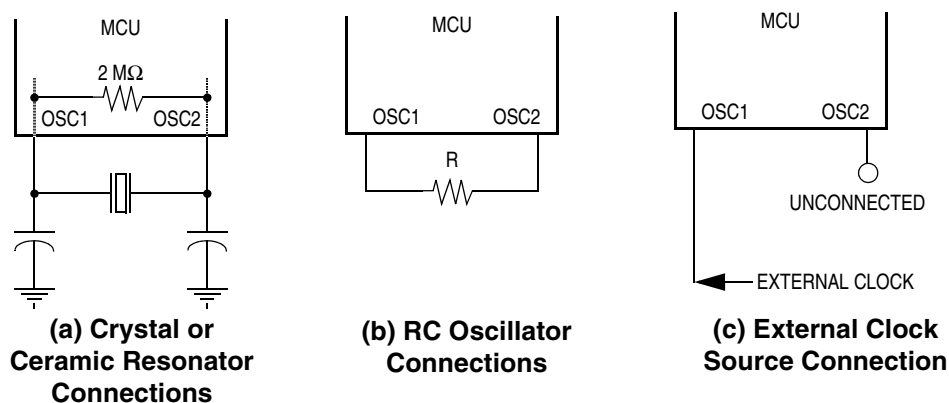

Figure 1-3. EPO Oscillator Connections
- A crystal as shown in Figure 1-3 \(a\)
- A ceramic resonator as shown in Figure 1-3 \(a\)
- An external resistor as shown in Figure 1-3 \(b\)
- An external clock signal as shown in Figure 1-3 \(c\)
The circuit in Figure 1-3 \(a\) shows a typical oscillator circuit for an AT-cut, parallel resonant crystal. The crystal manufacturer's recommendations should be followed, as the crystal parameters determine the external component values required to provide maximum stability and reliable startup. The load capacitance values used in the oscillator circuit design should include all stray capacitances. The crystal and components should be mounted as close as possible to the pins for startup stabilization and to minimize output distortion. An internal startup resistor of approximately 2 M Ω can be provided between OSC1 and OSC2 for the crystal type oscillator by use of the OSCRES bit in the MOR.
In cost-sensitive applications, a ceramic resonator can be used in place of the crystal. The circuit in Figure 1-3 \(a\) can be used for a ceramic resonator. The resonator manufacturer's recommendations should be followed, as the resonator parameters determine the external component values required for maximum stability and reliable starting. The load capacitance values used in the oscillator circuit design should include all stray capacitances. The ceramic resonator and components should be mounted as close as possible to the pins for startup stabilization and to minimize output distortion. An internal startup resistor of approximately 2 M Ω can be provided between OSC1 and OSC2 for the ceramic resonator type oscillator by use of the OSCRES bit in the MOR.
The lowest cost oscillator is the RC oscillator configuration where a resistor is connected between the two oscillator pins as shown in Figure 1-3 \(b\).
An external clock from another CMOS-compatible device can be connected to the OSC1 input, with the OSC2 input not connected, as shown in Figure 1-3 \(c\). This oscillator can be selected via software. This configuration is possible regardless of whether the crystal/ceramic resonator or RC oscillator configuration is used.